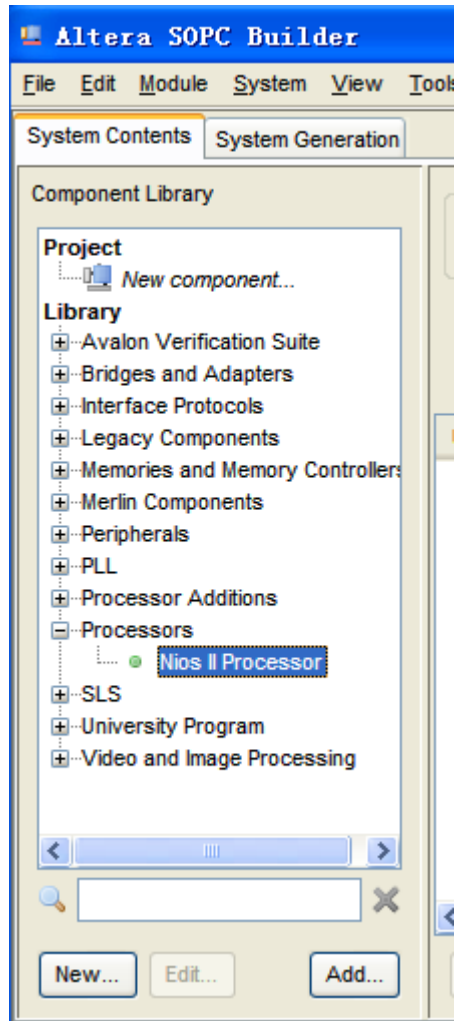
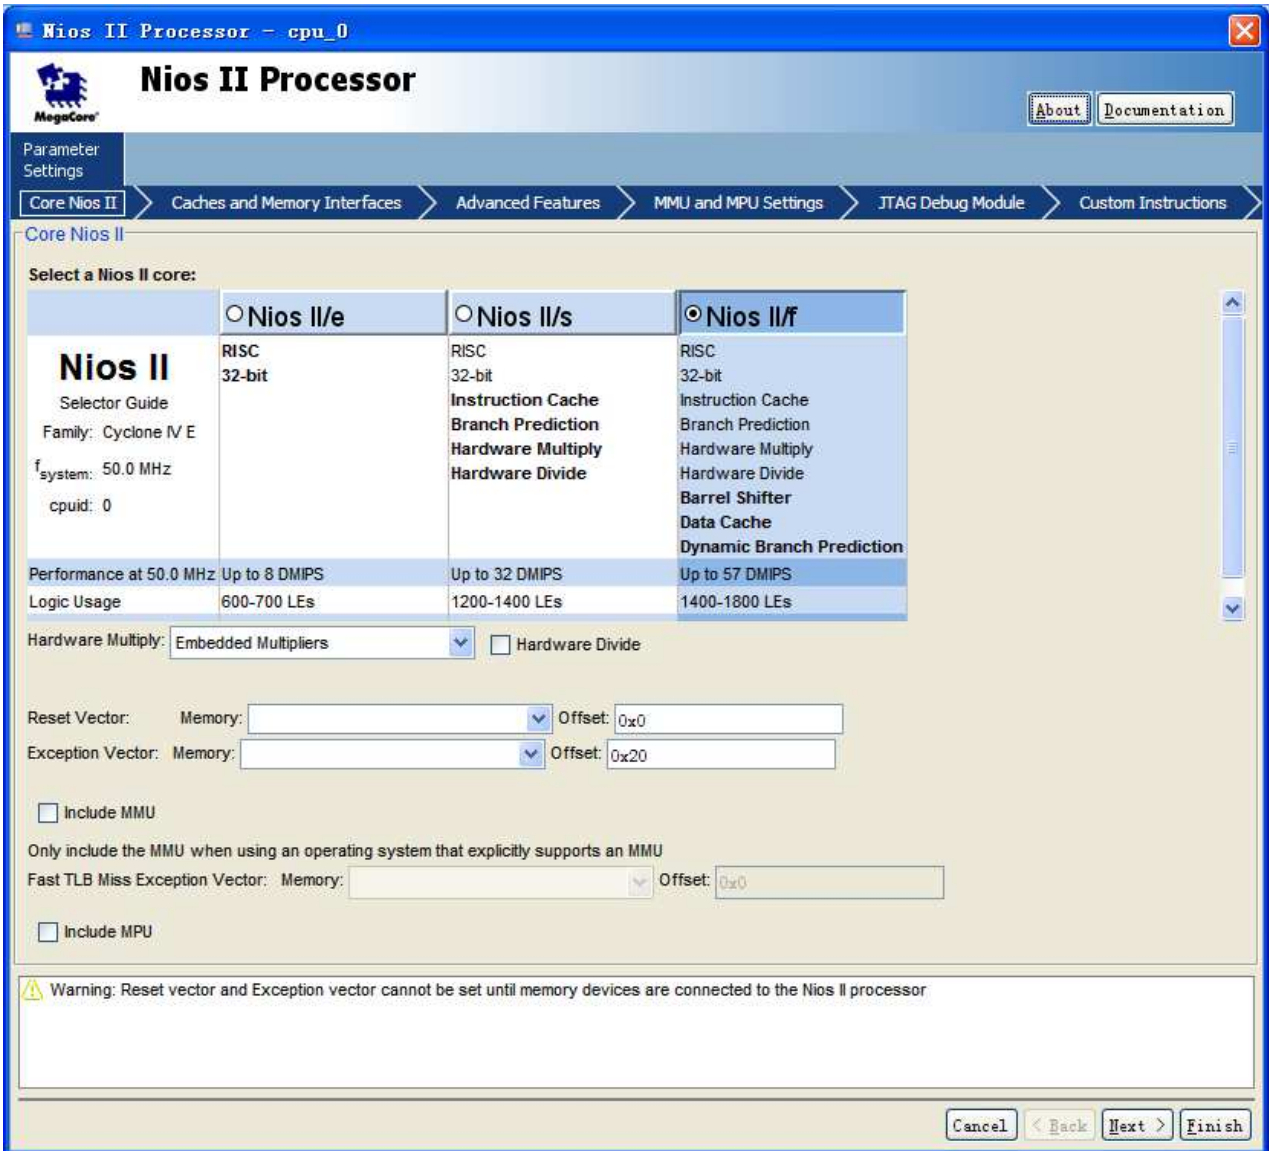

Figure 7-14 Add NIOS II Processor
Figure 7-15 Nios II Processor
8. In the left hand-side Component Library tree, select **Library > Processors > Nios II Processor** and click the **Add...** button to open the Nios II component wizard, as shown in **Figure 7-14** and **Figure 7-15**.